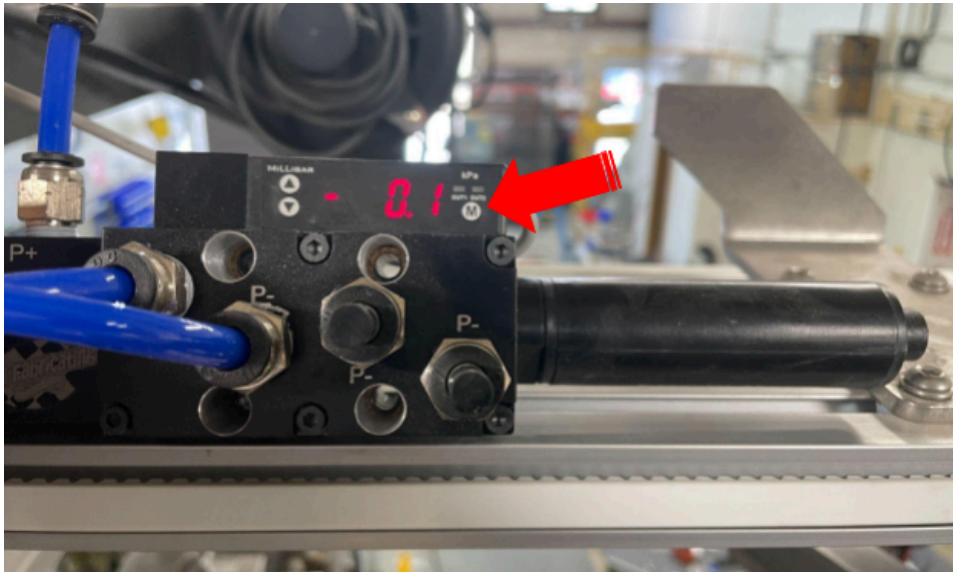

Fig. 6: "M" Button on Vacuum Generator sensor display
2. The Lower Pressure Setpoint is P_1. Set P_1 so that it is 1.0 higher (that is, 1.0 further into negative numbers – see Table 2) than the Open Air Value. To Set P_1, press the “M” button, as shown in Fig. 6. Make note of the value to which P_1 is set.